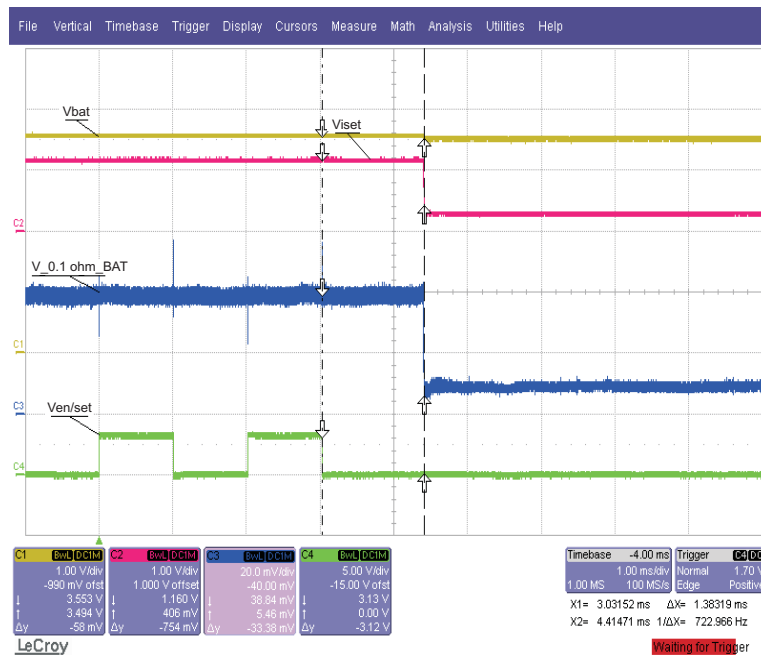

Figure 3. Two-Pulse Programming Shows Timing of Program Change From 0.4 A to 0.1 A
9. Switch, S1, DOWN, then UP to program charger to USB100 mode (Figure 3).